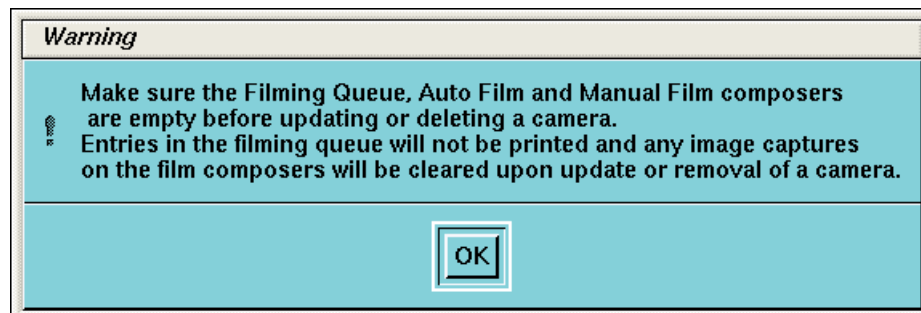
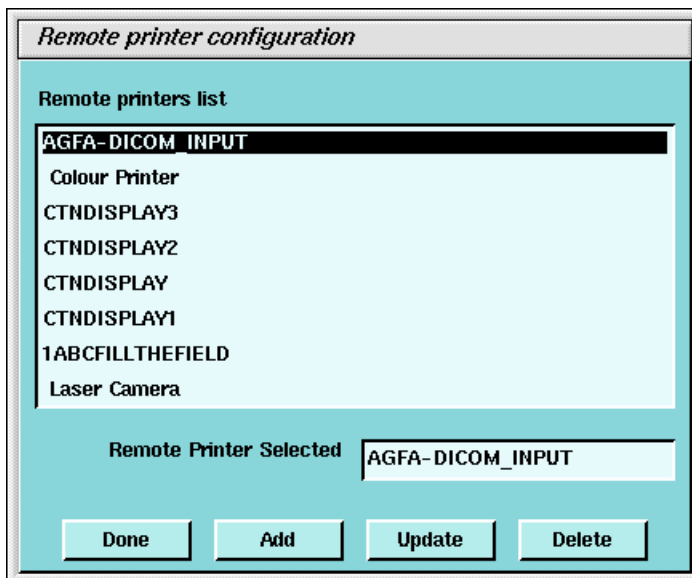

Figure 9-7 Warning Screen
Figure 9-8 Printer Configuration GUI
- 3.) The Graphical User Interface displayed shows a list of cameras installed (see Figure 9-8). First, you must click OK in the warning message box (see Figure 9-7).
- a.) To add a new camera, click the ADD button (see Figure 9-8).